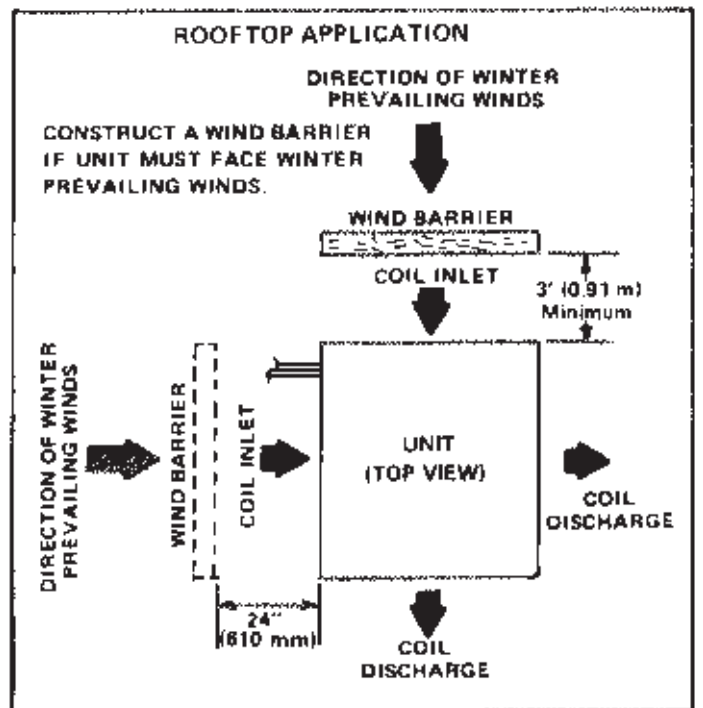

FIGURE 3
- 4 - When installed in areas where low ambient temperature exist, unit should be located so winter prevailing winds do not blow directly into outdoor coils. See Figure 3.
If unit coil cannot be mounted away from prevailing winter winds, a wind barrier should be constructed. Size barrier at least the same height and width as outdoor unit. Mount barrier 24 inches (610 mm) from inlet sides of unit in the direction of prevailing winds. Refer to Figure 3.